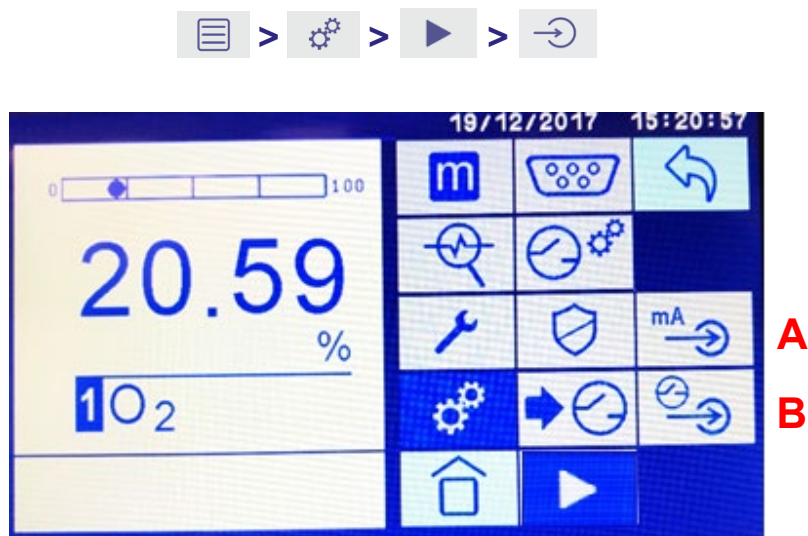

Figure 10-20: Settings sub-screen for mA Analog (A) and Digital (B) Inputs
- There are two types of Inputs available, the mA Analog Input and the Digital Input, See Figure 10-20, (A) for mA Analog Input and (B) for Digital Input.